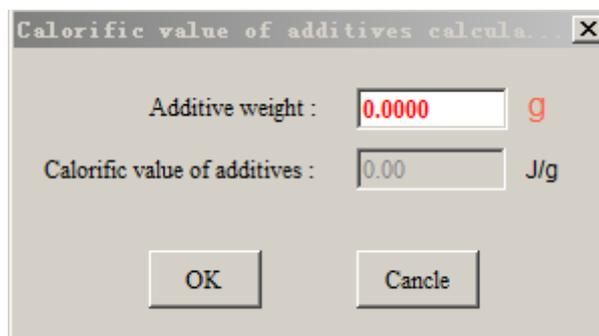

Fig. 4-5 Additives calculation
3. Input of Calorific value of Additives: When the test sample contains additives, you can input the calorific value of additives directly, or you can click ">" button in "Calorific value of Additives" input frame. A window as shown in Fig. 4-5 will appear. Input the additives weight, then click "OK". System will automatically convert the additives weight into calorific value of additives and transmit this value to the input window of calorific value of additives. Clicking "Cancel" will return to parameter input window directly and no conversion will be done.